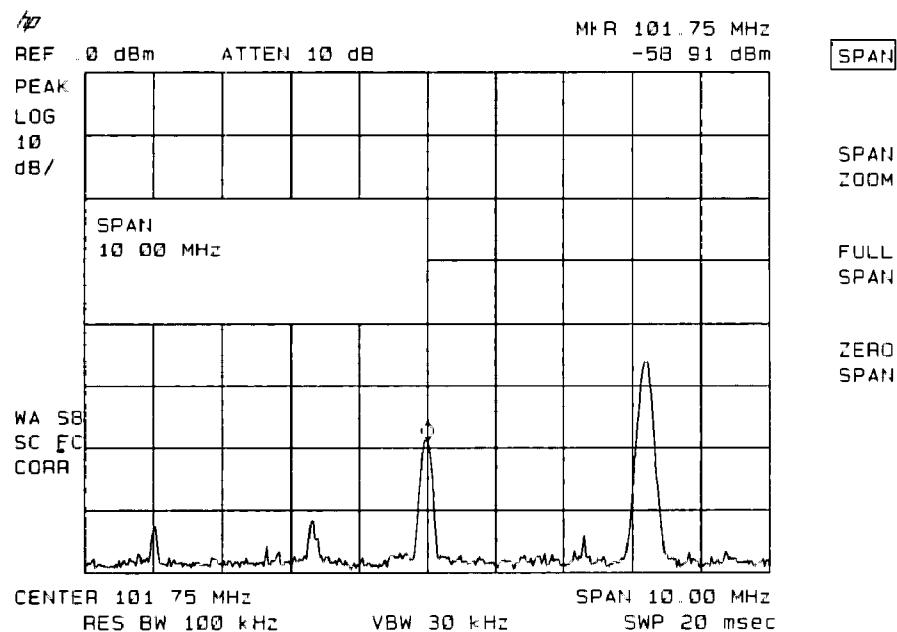

Figure 6-15. Low-Level Signal
5. Reduce the span to 10 MHz. Press [SPAN], and then use the step down key (▼). See Figure 6-15.